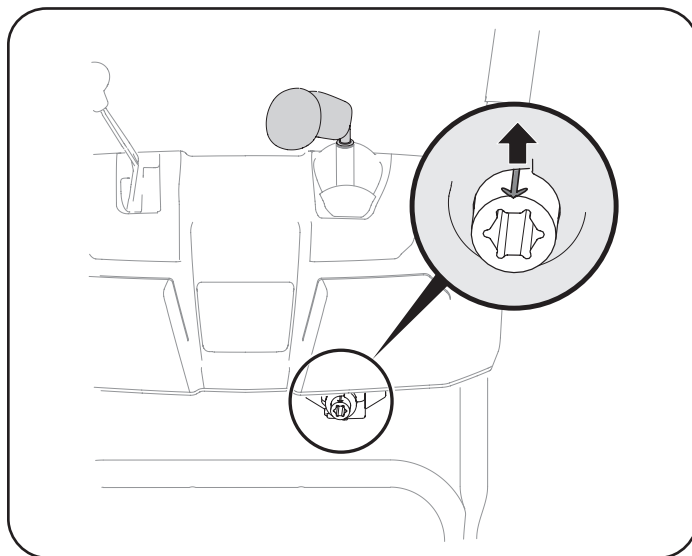

Figure 23
5. Rotate joystick to one o'clock position so that indicator arrow on pinion gear below control panel faces upward. See Figure 23.